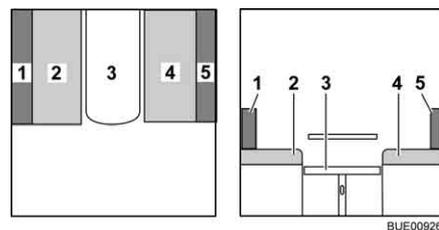

Fig. 89 During conversion
- Remove the back cushion (Fig. 89,5) and lay it aside.
- Pull the seat cushion (Fig. 89,2) into the middle.